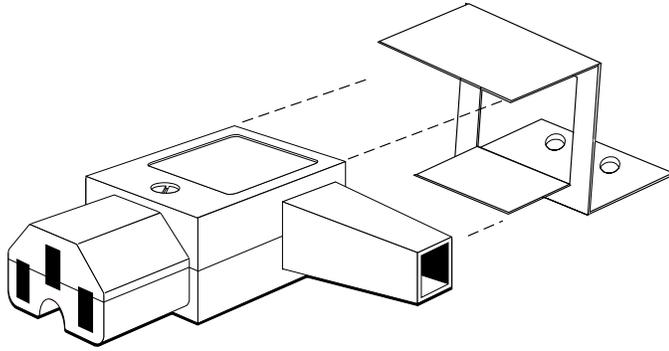

Figure 7. Cable
2. Place the retainer bracket over the connector so that the shorter sides wrap around the connector and the screw holes on the large flange line up with those on the case (see figure 7).